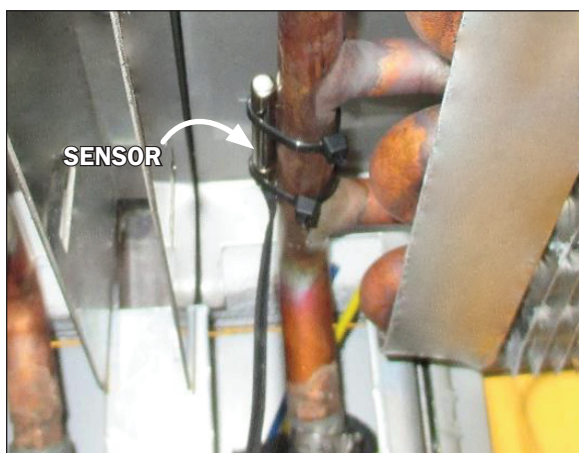

Fig. 4 Gravity coil sensor
1. The gravity coil will have a sensor attached at the return side of the coil (Fig. 4).